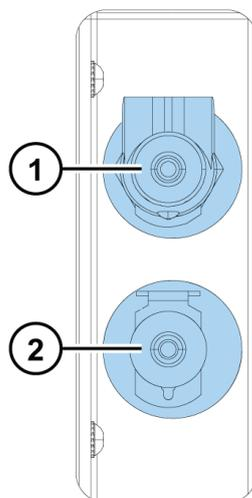

Figure 4-32 Gas connectors
2. Attach the connectors at the other ends of the tubes to the gas connectors on the back panel of the instrument (see Figure 4-32 and Figure 2-3).